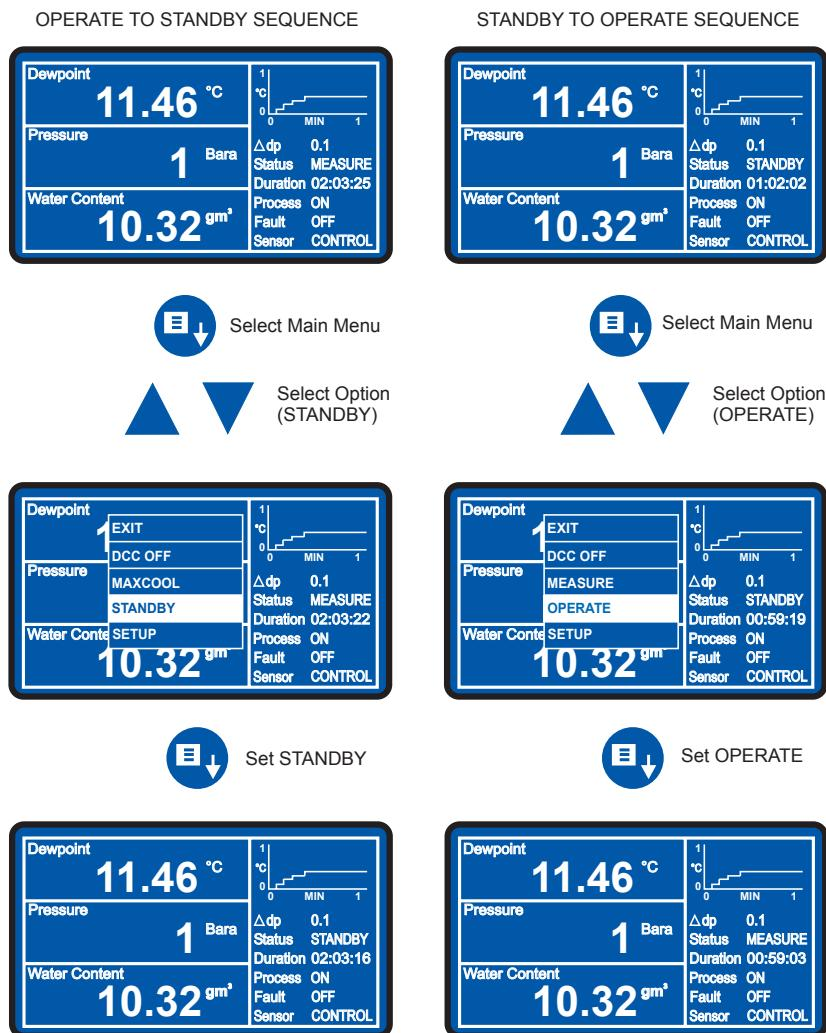

Figure 28     *Switching STANDBY and OPERATE Mode*
*Figure 28 shows the method of selecting and cancelling STANDBY mode. **NOTE: When switching from STANDBY to OPERATE mode, a DCC cycle will be initiated.***